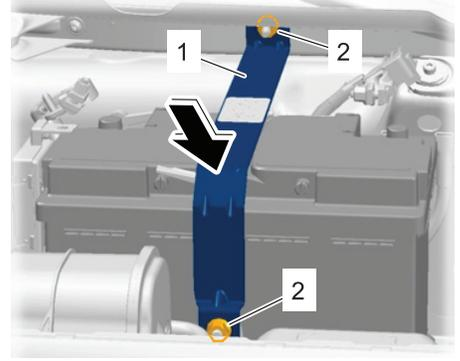

Fig. 9 Retaining bar installation
3. Install retaining bar (1) and nuts (2), **Fig. 9**. **Torque** nuts to 17 ft. lbs.